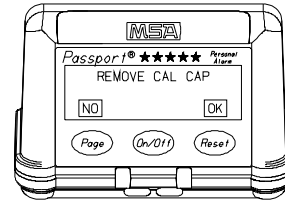

Figure 2-9.
- When all of the selected calibrations are set, a long beep sounds and the display reads (FIGURE 2-9):